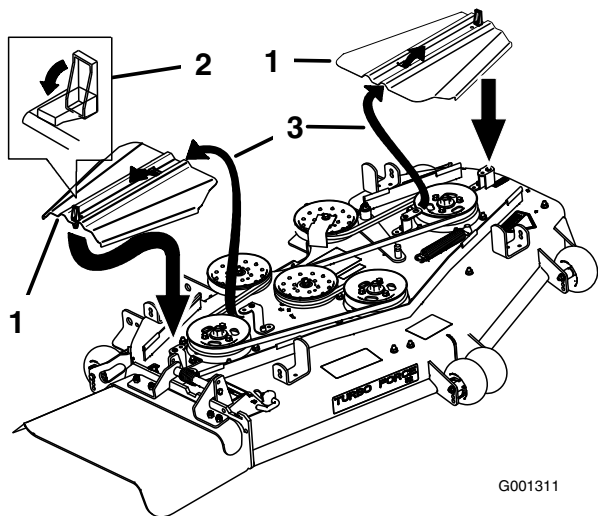

Figure 3
12. Install the belt covers by sliding the cover into the tab, install the bolts, and close the latches (Figure 3).